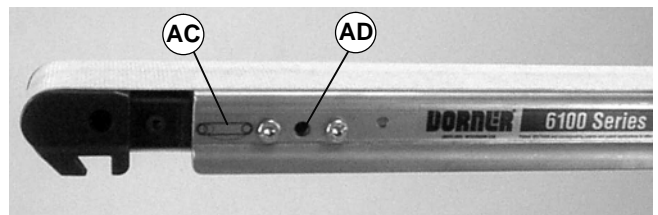

Figure 20
3. On tension end of the conveyor identified with a  label (AC of Figures 20 & 21), insert a 5 mm hex key wrench to engage pinion gear (AD of Figure 20).
4. On tension end of the conveyor identified with a  label (AC Figures 20 & 21), insert a 5 mm hex key wrench to engage pinion gear (AD of Figure 20).
1. On tension end of the conveyor identified with a  label (AC of Figures 20 & 21), insert a 5 mm hex key wrench to engage pinion gear (AD of Figure 20).
**NOTE:** On pinion gear (AD of Figure 20), do not exceed a torque of 2.8 Nm for 44 mm to 305 mm wide conveyors and 4.5 Nm for a 457 mm wide conveyor. Over-tensioning the conveyor belt could cause excessive pulley bearing load and early failure.